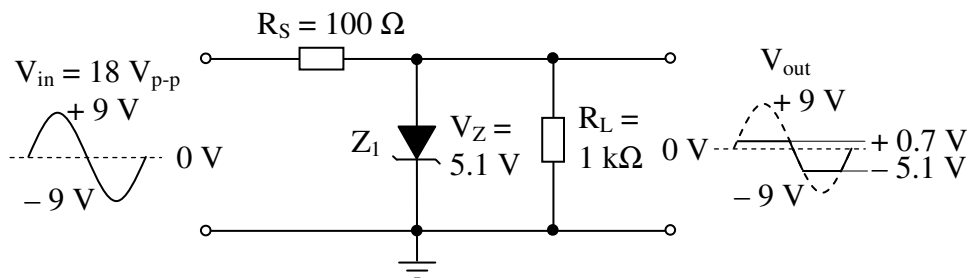

Fig. 4.7 Voltage limiting
Refer to Fig. 4.7 and note that a Zener diode can be used to limit peak voltages, thereby protecting other circuits that cannot withstand high voltages. In the forward-biased condition (when the positive alternation is present) the Zener diode conducts and a $+0.7\text{-V}$ drop is seen across the load resistor. In the reverse-biased condition (when the negative alternation is present) the Zener diode does not conduct until the voltage exceeds its Zener voltage breakdown point (V_Z). The diode then conducts and output voltage will now be clipped or clamped at the V_Z level.
- Construct the circuit shown in Fig. 4.7.